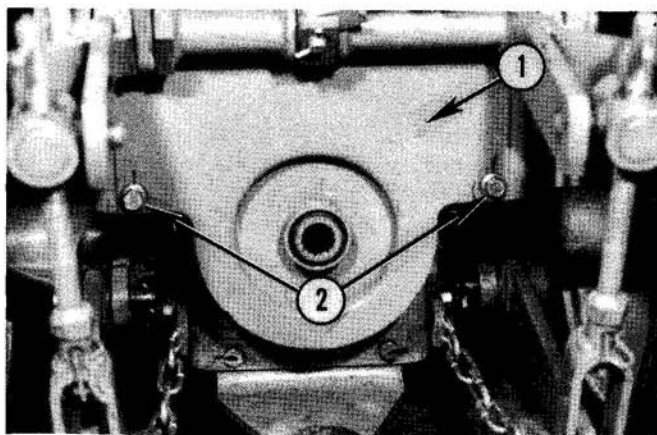

Fig. 1 — Tractor PTO Shield Installation
1. Remove and discard two lower bolts from tractor rear PTO cover as shown in Fig. 1.